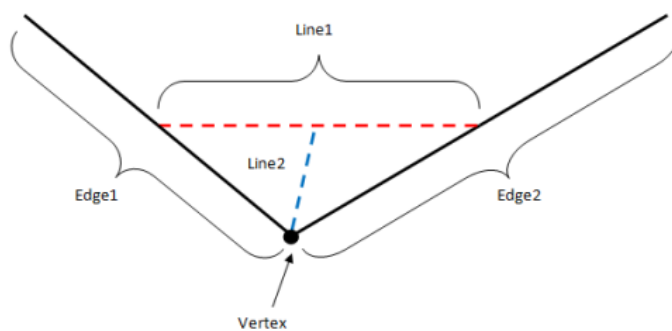

Fig. 4: Method of smoothing
Additionally, smoothing can also be explicitly used to further simplify the aperture shape. As shown in figure 4 below, a line segment (Line1) is created using the center points of the two edges that touch the vertex. A second line segment (Line2) is created going from the vertex to the center point of Line1. The vertex will be shifted along Line2 according to the *smoothSize* parameter of the *compute\_smoothed\_aperture* function. The value of *smoothSize* should be set between 0.0 and 1.0, indicating how far along Line2 the vertex will shift (0.5 will shift it to the center of Line2, and 1.0 will shift it to the intersection of Line1 and Line2). The *iter* parameter will indicate how many times the smoothing algorithm will act on the given aperture, with higher values resulting in more smoothing.
2. figure 4: shows an example diagram of the smoothing algorithm.